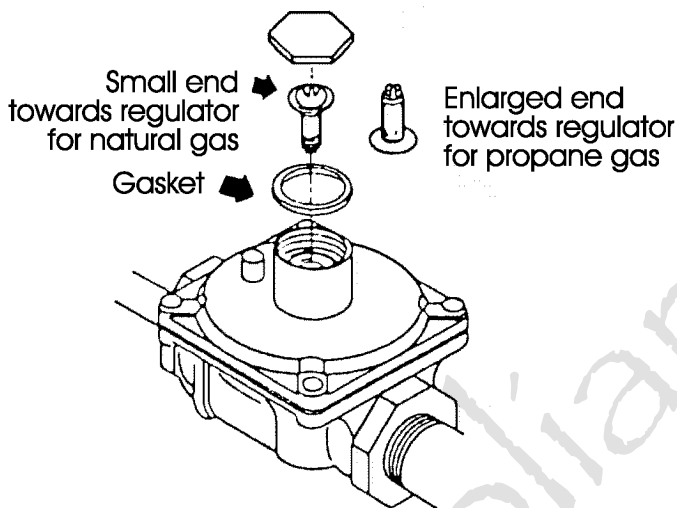

Figure 1
- Turn the plunger with the small end down for natural gas use (See Figure 1).